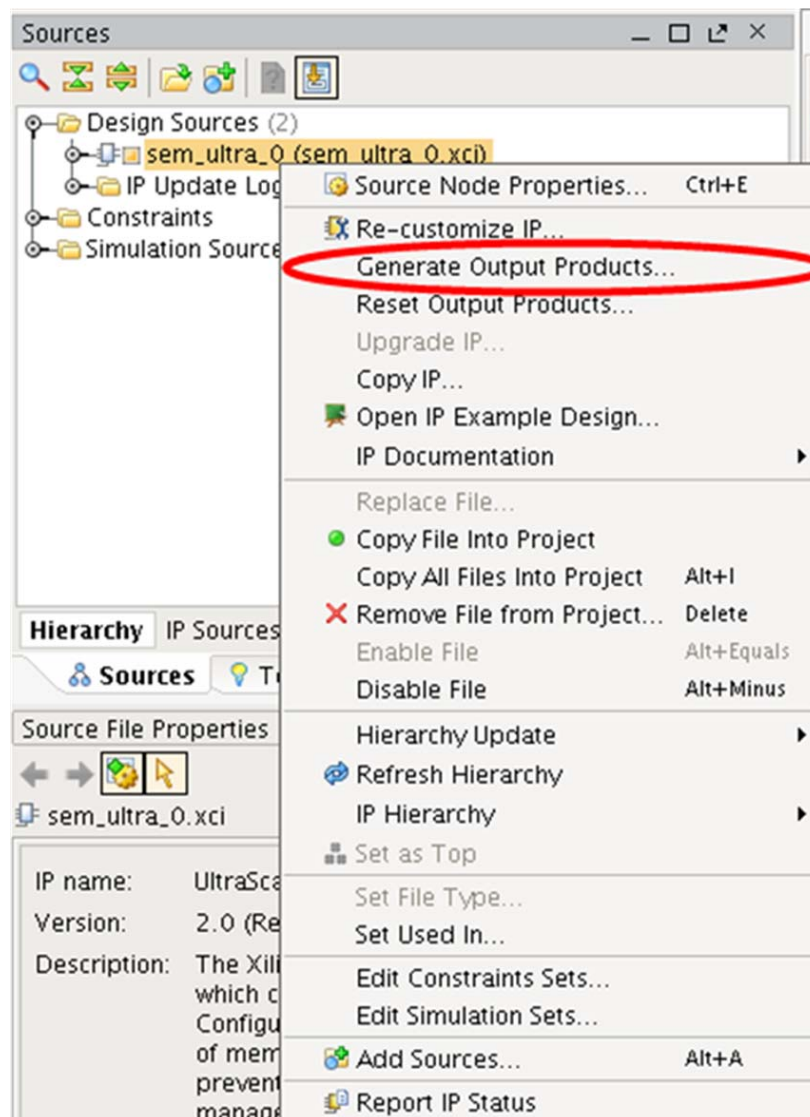

Figure 3: **Generate Output Products**
- Next, generate the output products. When the project is created for the first time, the output products are auto-generated. If using an existing project, open the Vivado project file (`pr_sem_jtag_KCU105_KU040/Sources/ip/SEM_KCU105_KU040/KCU105_KU040/KCU105_KU040.xpr`), right-click `sem_ultra_0` (`sem_ultra_0.xci`), select **Generate Output Products**, and click **Generate** (see Figure 3).